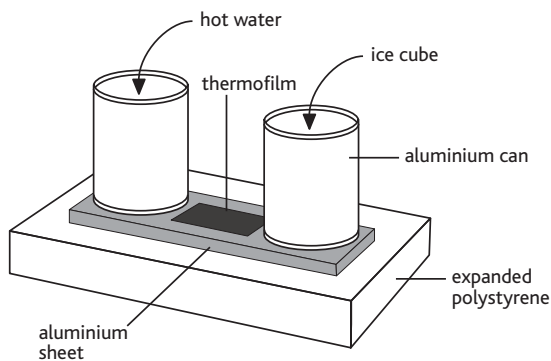

Figure 6
1. Affix the thermofilm to the aluminium sheet as shown in Figure 6.
2. Place the aluminium sheet on the expanded polystyrene slab as shown in Figure 6.
3. Place the aluminium cans on either side as shown in Figure 6.